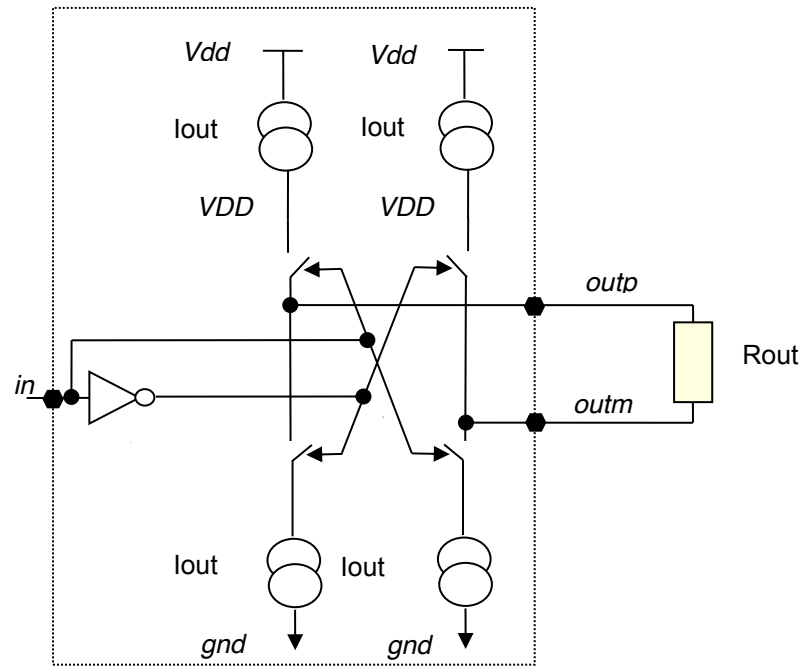

Fig 19: Principle of a LVDS compatible output.
- LVDS compatible outputs as shown on **Fig 19**.